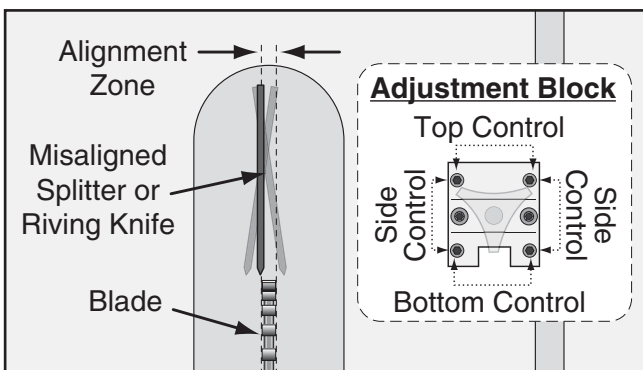

Figure 117. Set screws for adjusting spreader/ripping knife position.
Figure 117 shows the set screws associated with controlling the mounting block position.
3. Loosen the two button head cap screws on the mounting block, then adjust the set screws on the block to move it in the necessary direction (see "Mounting Block" inset in **Figure 117**).